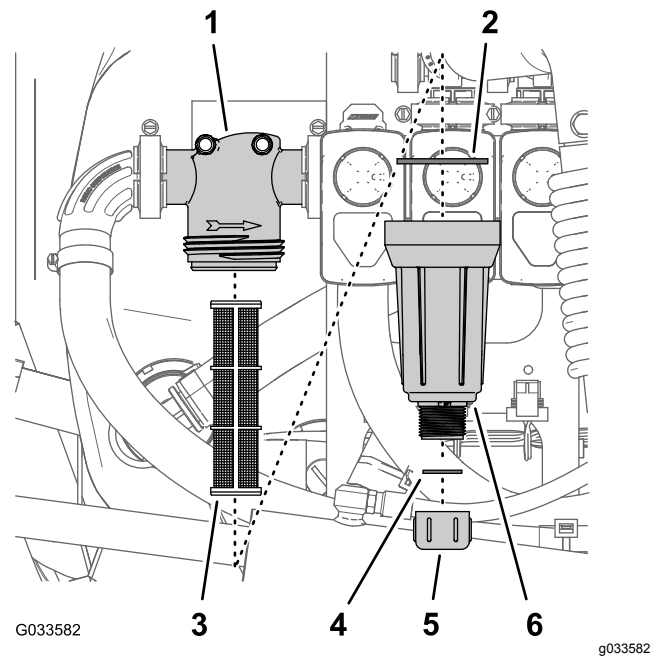

Figure 106
2. Align a drain pan under the pressure filter (Figure 106).
3. Rotate the drain cap counterclockwise and remove it from the bowl of the pressure filter (Figure 106).
4. Rotate the bowl counterclockwise and remove the filter head (Figure 106).
5. Remove the old pressure filter element (Figure 106).
6. Check the gasket for the drain plug (located inside the bowl) and the gasket for bowl (located inside the filter head) for damage and wear (Figure 106).
7. Install the new pressure filter element into the filter head (Figure 106).
8. Install the bowl onto the filter head, and tighten by hand (Figure 106).
9. Assemble the drain cap onto the fitting at the bottom of the bowl, and tighten the cap by hand (Figure 106).